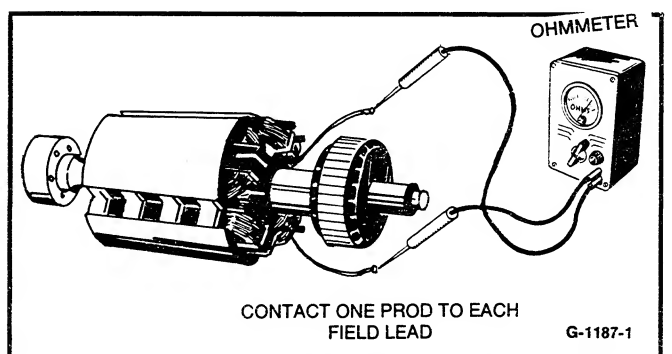

FIGURE 5-18. TESTING GENERATOR ROTOR FOR OPEN CIRCUIT
1. Disconnect and test between X and XX leads, Figure 5-18.